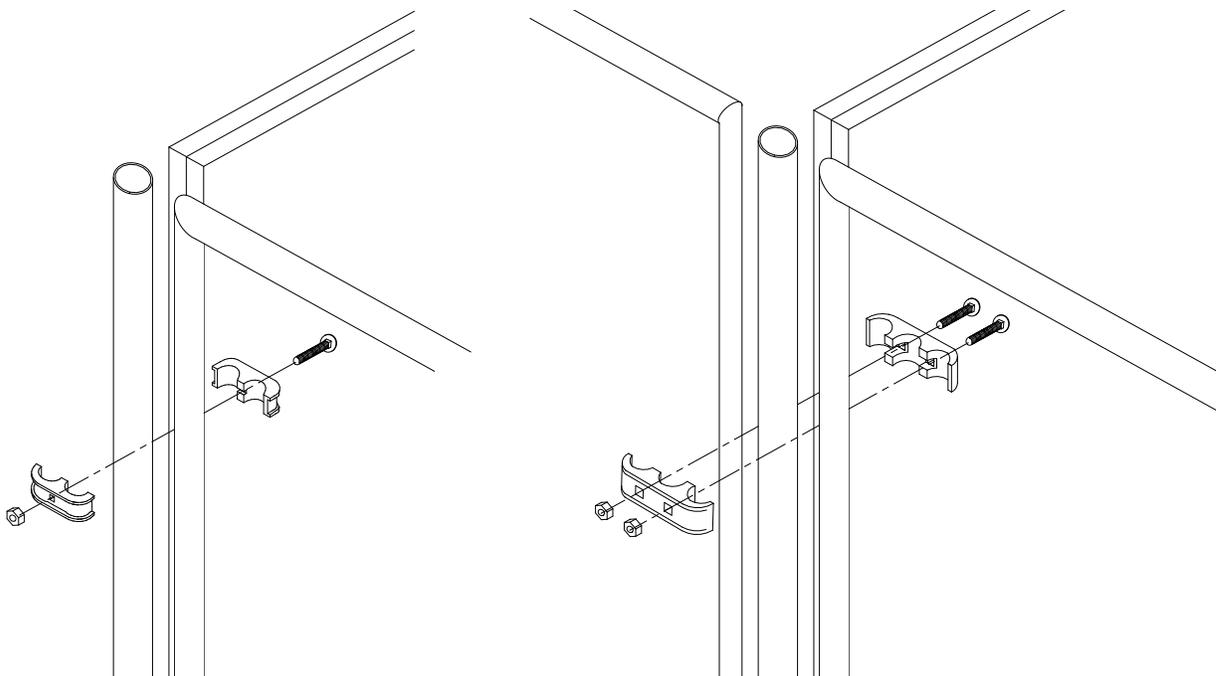
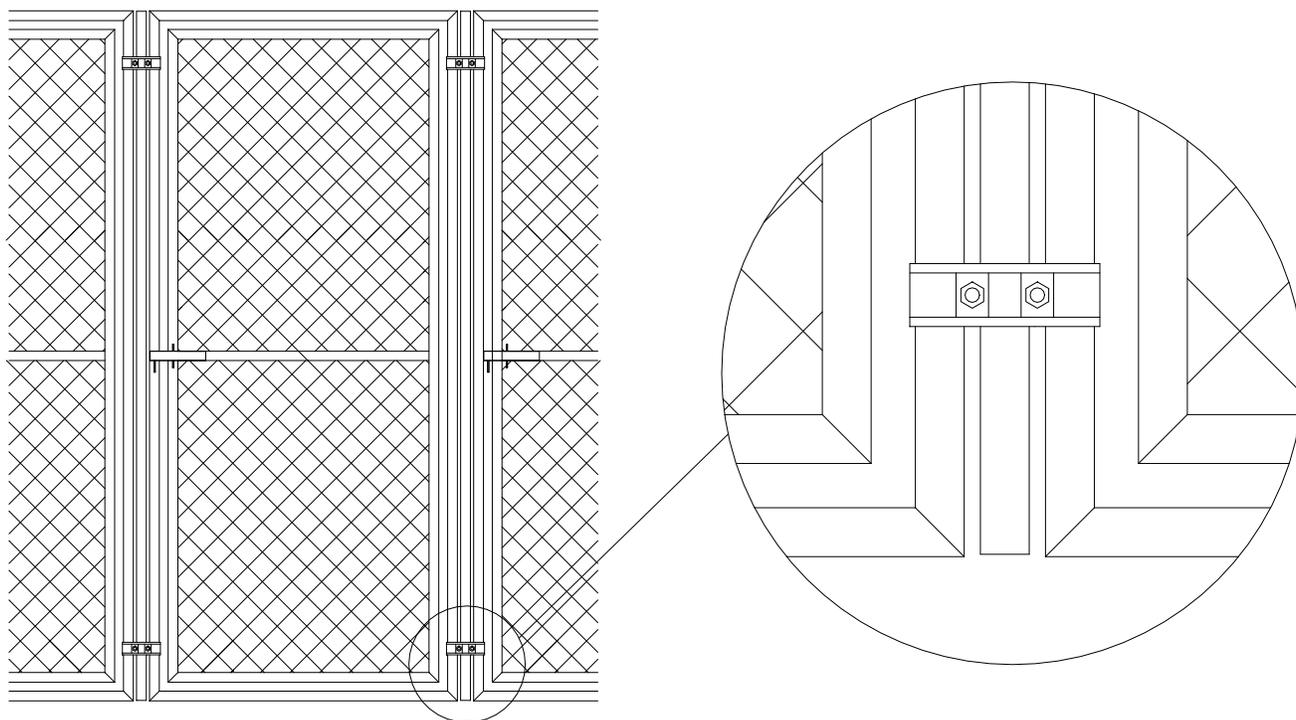

Figure 11
Figure 12
2. Attach the gate/stall front on the front of each run between the filler pipes with two clamps on each side using the 5/16" x 1-1/2" bolts and nuts provided as shown in Figure 11. Note: It takes two halves to make up one clamp. Attach gates/stall fronts to outside division panels using "panel clamps". All other gates/stall fronts will use "triple clamps". **To help insure the safety of the animals the round head of the bolt should be assembled toward the inside of the run.** Note: The triple clamps attach two gates/stall fronts together. Therefore you will have to hang two gates/stall fronts at the same time (see Figure 12).